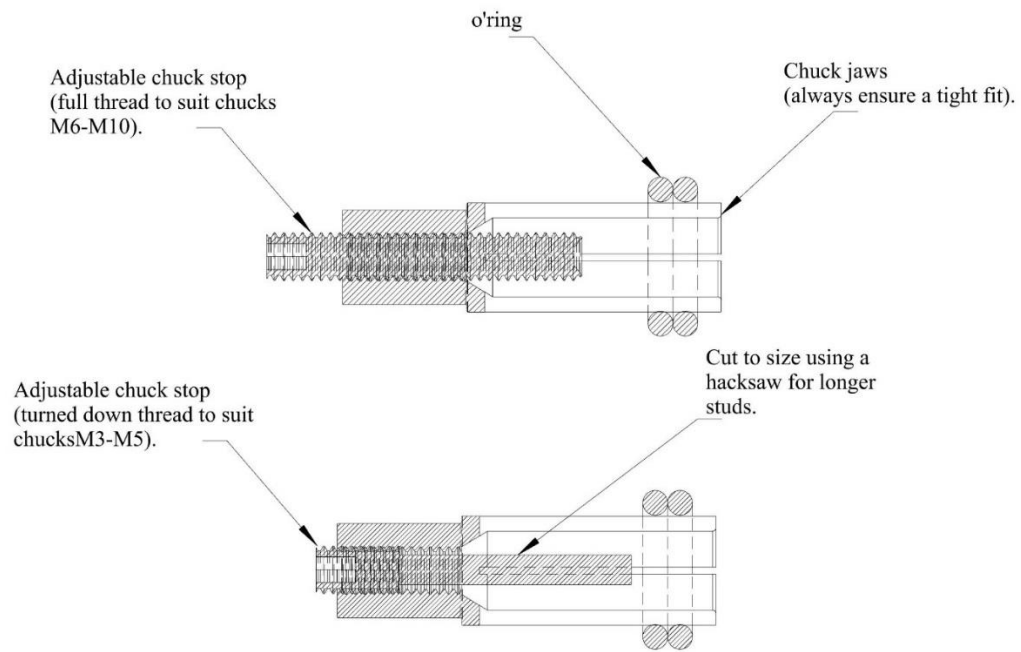

Figure 15.
- If an M3, M4 or M5 chuck is required then the turned down stop may need to be cut short to accommodate for longer studs above 16mm long (see figure 15).